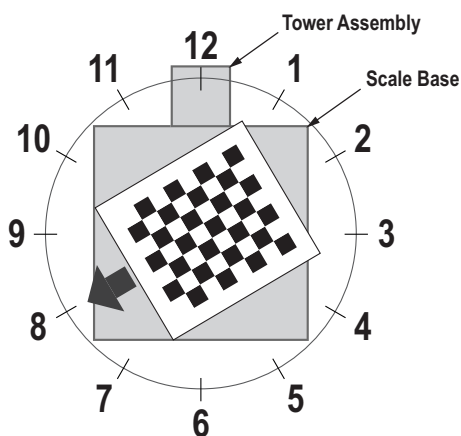

Figure 5-12. Rotate to 8 o'clock
13. Align calibration object so the cross hairs are centered. Rotate the calibration object to 8 o'clock with the tower assembly being at 12 o'clock (Figure 5-12).